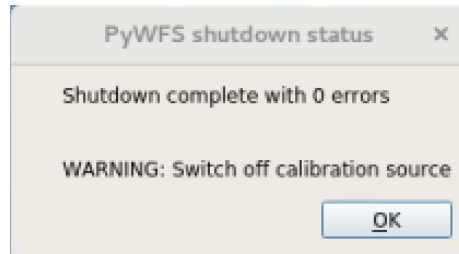

Figure 16: Message sent after shutdown is complete, with warning to switch off the calibration source
- d. At the end of the process a message will appear (FIGURE 16) informing you of any errors in the shutdown process and warning you to turn off the calibration source (this will not be done automatically). The shutdown process can take a couple of minutes to complete to ensure the pick-off optic is fully removed.